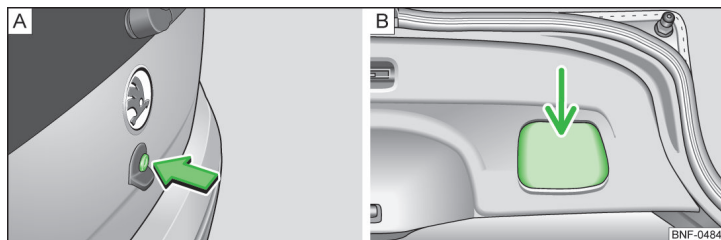

Fig. 30 Luggage compartment lid
➤ Open the luggage compartment lid by pressing the » Fig. 30 -  button.
- Reach into the recesses » Fig. 30 -  and pull the luggage compartment lid down.